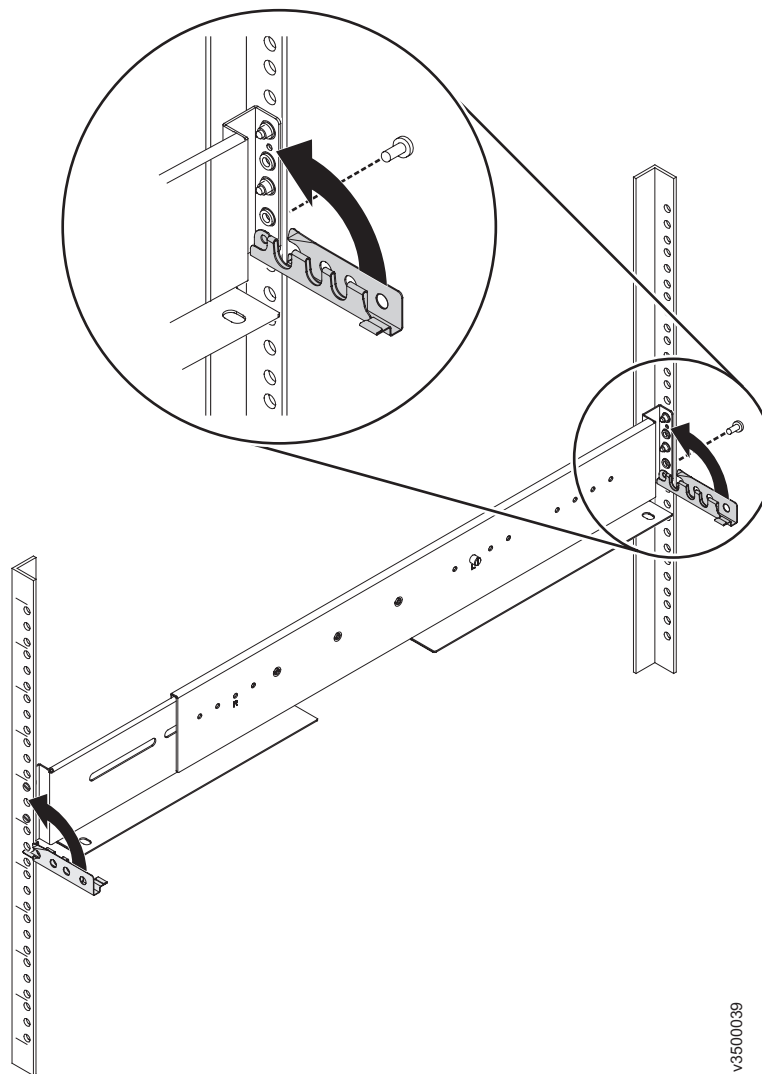

Figure 10. Closing hinge brackets and installing rear screw
7. On the rear of the rail, press the two bracket pins into the holes in the rack flanges and close the rear hinge bracket to secure the rail to the rack cabinet flange (see Figure 10).
8. On the front of the rail, press the two bracket pins into the holes in the rack flanges and close the front hinge bracket to secure the rail to the rack cabinet flange (see Figure 10).
9. Secure the rear of the rail to the rear rack flange with an M5 screw (see Figure 10).